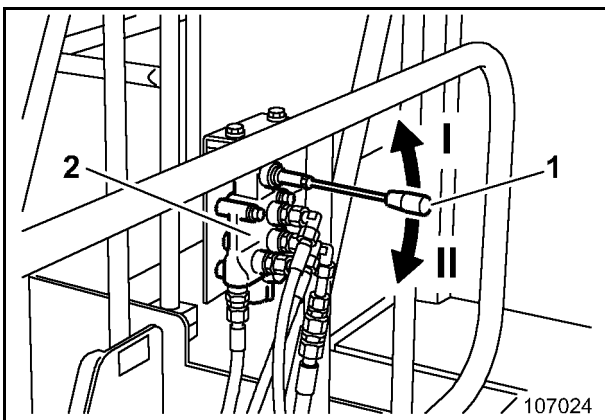

Fig. 2-10:
- ➡ Pull lever (1, Fig. 2-10:) on control valve (2) upwards to position "I".
- ➡ Push lever (1, Fig. 2-10:) on control valve (2) downwards to position "II".